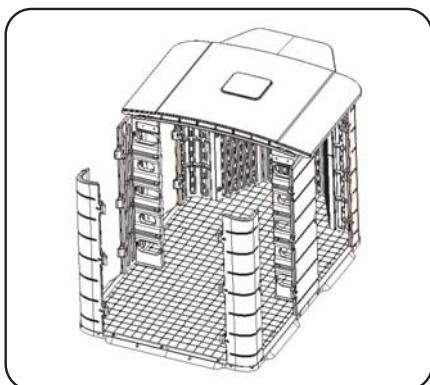

Figure 21
Once the skylights are in place on the main roofs, mount one of the main roofs on top of the bay roof, the rear corner posts and the 2 center posts. When the roof is in position, bolt the 2 rear corner posts to the main roof by using the easy bolts (item 5). The main roof and the bay roof are also required to be bolted together in the area provided. See figures 21 and 22.